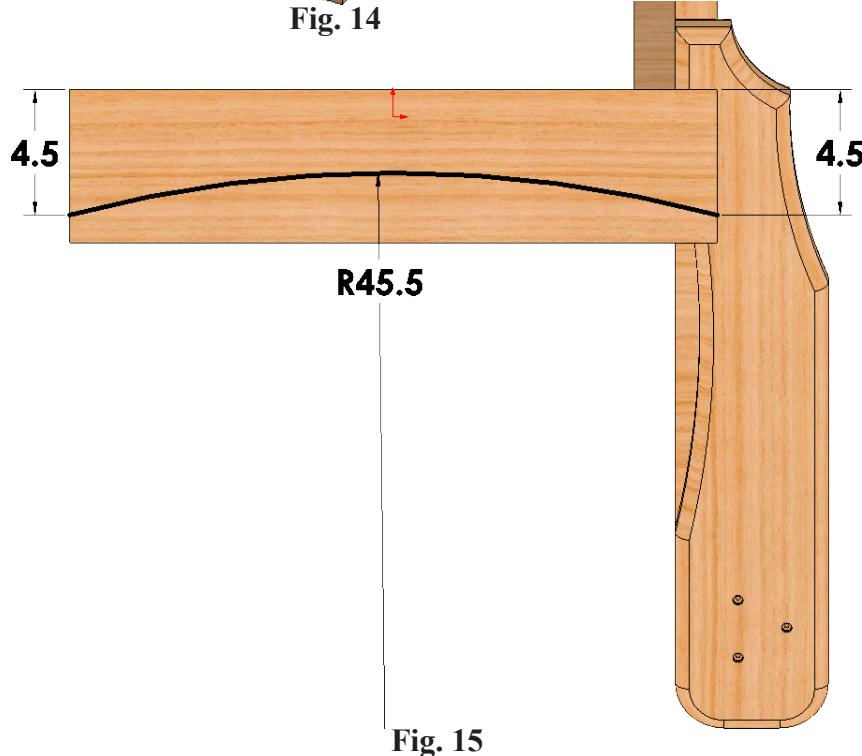

Fig. 15
Step 3. Click **3 Point Arc**  (S) in the **Arc flyout**  on the Sketch toolbar.
Step 4. Sketch 3 Point Arc across Top Rail, Fig. 15.
Step 6. Dimension both 4.5s first, then arc 45.5, Fig. 15.